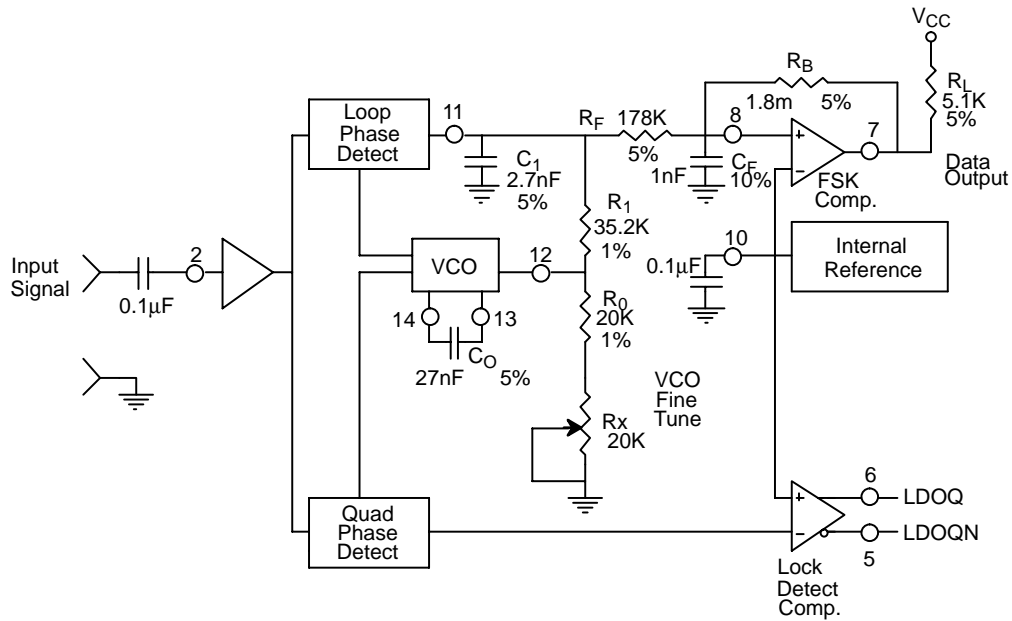

Figure 10. Circuit Connection for FSK Decoding of Caller Identification Signals (Bell 202 Format)
**VCO Frequency Adjustment:** VCO can be fine-tuned by connecting a potentiometer, RX, in series with R0 at pin 12 (see *Figure 10*).
Figure 10 shows the basic circuit connection for FSK decoding. With reference to Figure 3 and Figure 10, the functions of external components are defined as follows:  $R_0$  and  $C_0$  set the PLL center frequency,  $R_1$  sets the system bandwidth, and  $C_1$  sets the loop filter time constant and the loop damping factor.  $C_F$  and  $R_F$  form a one-pole post-detection filter for the FSK data output. The resistor  $R_B$  from pin 7 to pin 8 introduces positive feedback across the FSK comparator to facilitate rapid transition between output logic states.
The circuit of Figure 10 can be tailored for any FSK decoding application by the choice of five key circuit components:  $R_0$ ,  $R_1$ ,  $C_0$ ,  $C_1$  and  $C_F$ . For a given set of FSK mark and space frequencies,  $f_0$  and  $f_1$ , these parameters can be calculated as follows: